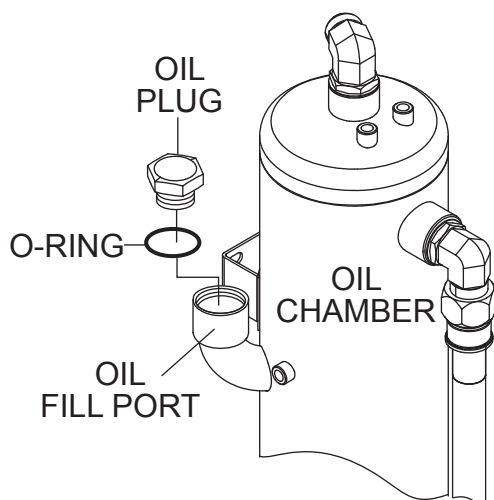

Figure 61. O-Ring Replacement (Oil Chamber)
1. Remove the compressor oil fill plug (Figure 61) from the oil chamber fill port.